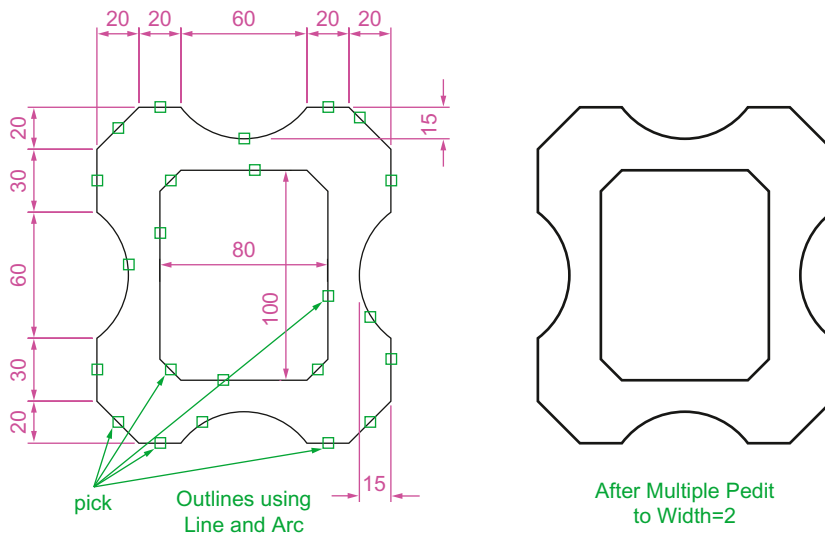

Fig. 3.43 Example – Multiple Polyline Edit
### Example – Multiple Polyline Edit (Fig. 3.43)
1. With the **Polyline** tool construct the left-hand outlines of Fig. 3.43.
The result is shown in the right-hand drawing of Fig. 3.43.